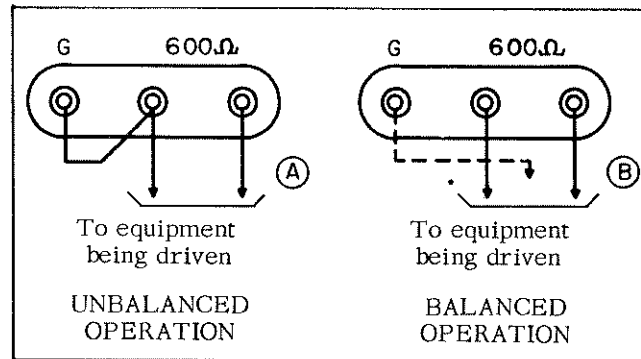

Figure 2-2. Output Connections
The output circuit of the Model 202C may be arranged for balanced or unbalanced operation. Typical connections for each are indicated in figure 2-2.
A. UNBALANCED OPERATION. To operate with one side grounded, the captive ground strap is placed between the G terminal and the center terminal, as indicated in figure 2-2.
B. BALANCED OPERATION. Connections for balanced operation are indicated in figure 2-2. The AMPLITUDE control is a bridged tee attenuator in the output circuit and therefore it will produce a degree of unbalance at any setting other than maximum output (minimum attenuation). The unbalance produced by the AMPLITUDE control will be a function of frequency with the greatest unbalance being produced at 100 kc. In many applications the unbalance produced by the AMPLITUDE control will not be important. Where a perfectly balanced output is required an external balanced attenuator or a line matching transformer such as the Φ AC-60A/B is recommended.